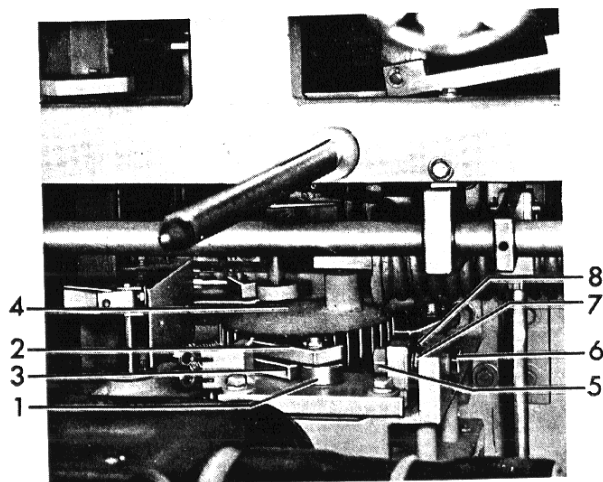

Figure 14. (8039310) Top of Mechanism
The manual driving pawl (1) Fig. 24 must advance the ratchet wheel (2) sufficiently to allow the latching pawl (3) Fig. 14 to fall into the ratchet teeth. Since the latching pawl is an integral part of the motor mount, the entire mounting must be moved to allow a clearance between the latching pawl and the ratchet tooth of .020" to .040" when the driving pawl is full advanced and the maximum load of the closing spring is on the ratchet.
After checking the pawl clearance and determining the amount of movement required in the motor mount, the check nut (5) Fig. 14 and bolt (6) can be removed and the necessary shim washers (7) added to or removed from the assembly. Replace the bolt and hand tighten, then turn approximately 1/2 turn with a wrench. Hand wind the closing spring and again check the clearance with the closing spring load applied. Secure the bolt (6) by replacing nut (5) on the assembly.
NOTE: If it becomes necessary to clean the bearings in alcohol (shellac thinner), be sure the alcohol is perfectly clean, and do not allow the bearings to remain in the alcohol more than a few hours. If it is desirable to leave the bearings in the alcohol for a longer time, an inhibited alcohol such as is used for antifreeze should be used. Even then the bearings should be removed from the alcohol within twenty-four hours. Precautions against the toxic effects of the alcohol must be exercised by wearing rubber gloves and by using the alcohol in a well ventilated room; excessive exposure to the fumes is sometimes unpleasant to personnel. Washing the bearings in the light oil and draining should follow immediately, then apply the lubricant. Bearings that are pressed into the frame or other members such as the bearings for eccentric (1) Fig. 14, cam shaft bearings and trip and close shaft bearings should not be removed. After removing the shaft and inner race the bearing can usually be cleaned satisfactorily with petroleum solvent or a similar cleaner and a stiff brush. Follow the procedure outlined above using a light machine oil and G-E lubricant D50H15 before reassembling the inner race and shaft.